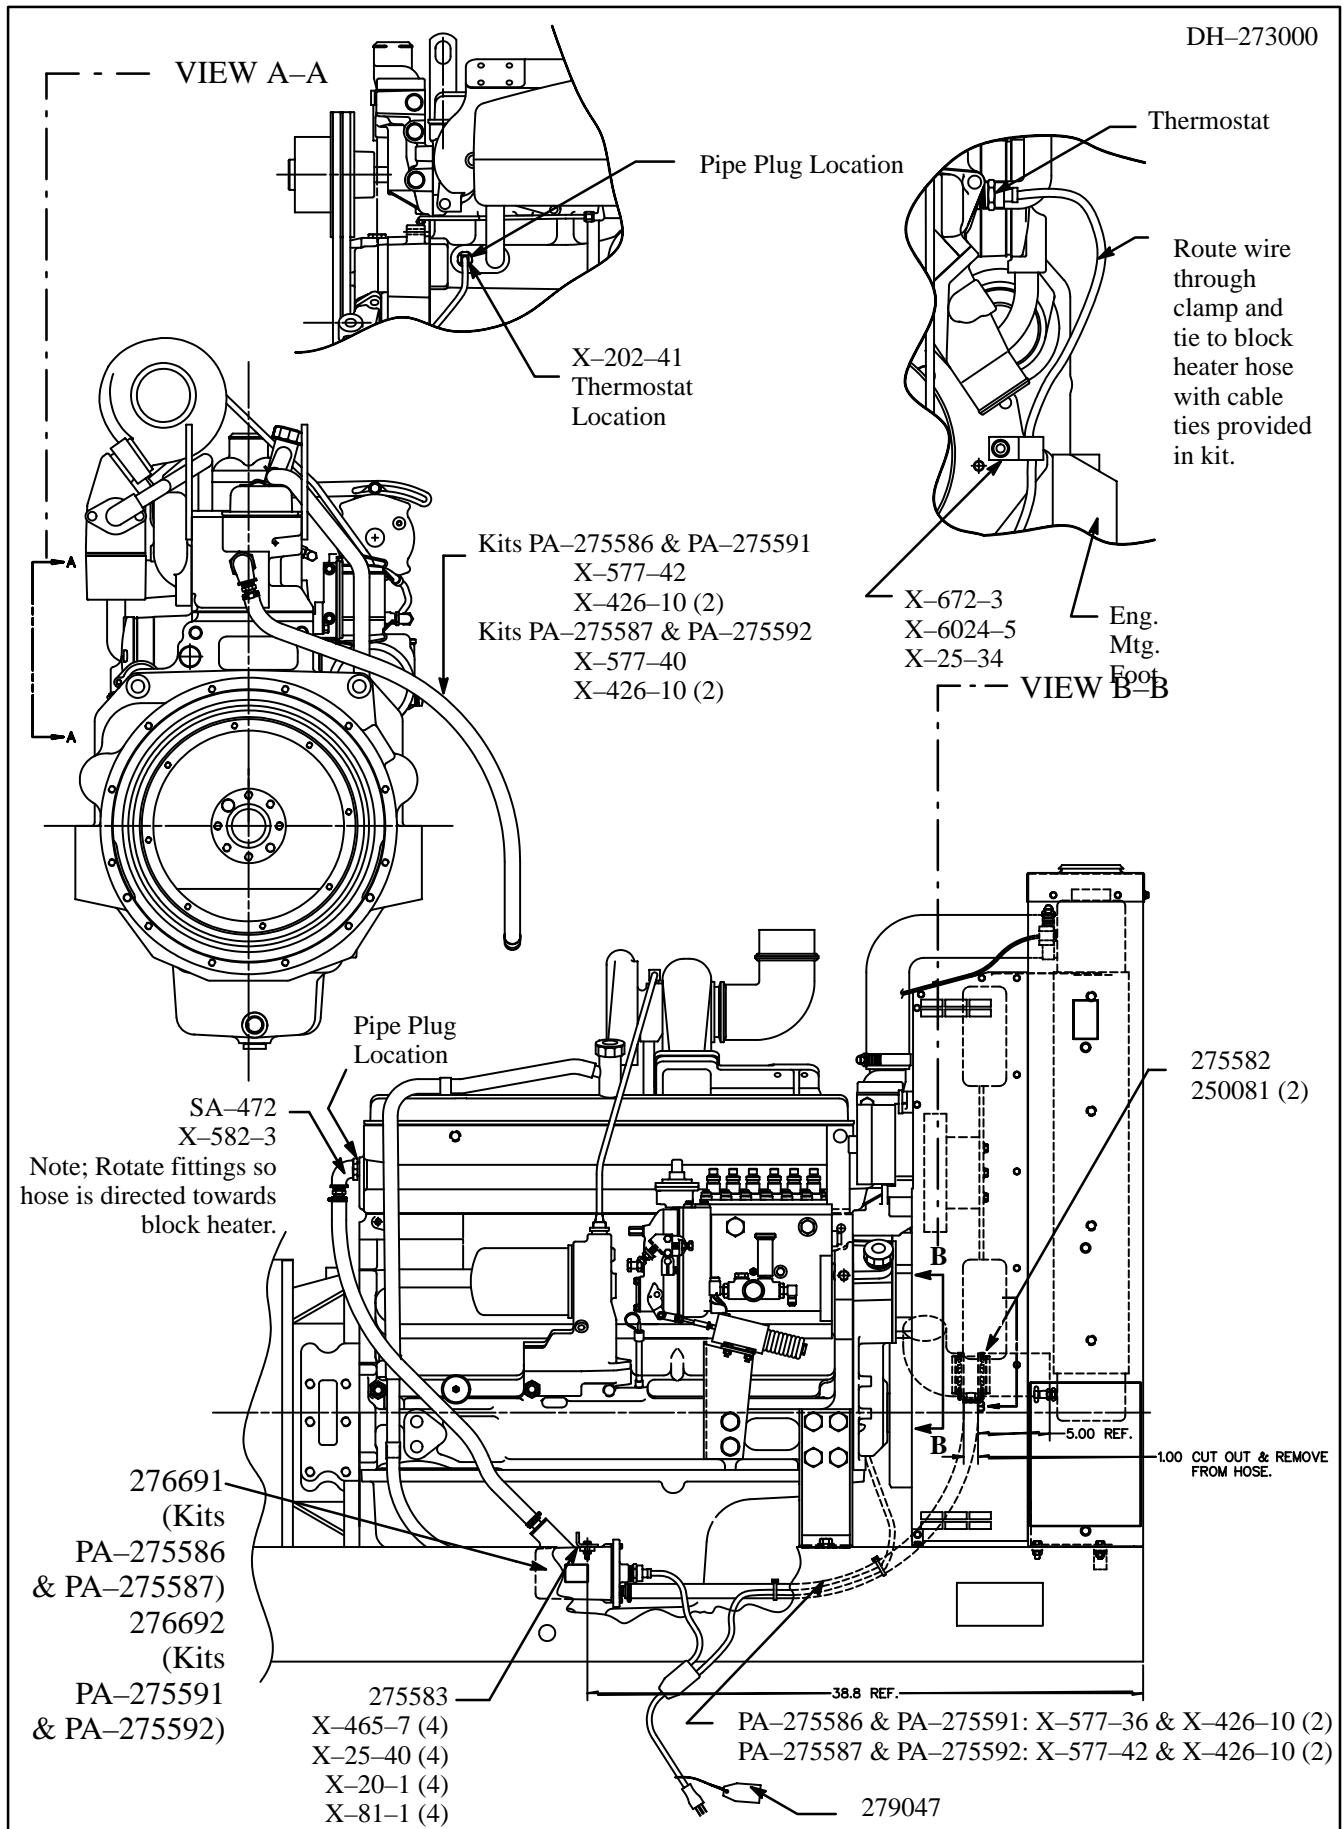

Figure 1. Block Heater Installation
The engine block heater kit heats engine coolant, making starting easier and warm-up quicker. The thermostat will automatically turn off when coolant temperature reaches 120°F (49°C). These instructions cover the installation of several block heater kits. In instances where two different part numbers are mentioned, refer to Figure 1 to determine which part number applies to your application.
3. Remove pipe plug from engine using a 1/2 inch square head driver. Clean hole and remove burrs. See Figure 1 for location.
4. Attach elbow (SA-472) and hose connector (X-582-3). See Figure 1.
9. Remove pipe plug. Position thermostat at location shown in Figure 1 (View A-A), by first installing reducer bushing (X-202-41). Route wire through clamp. Install insulator clamp (X-672-3) using washer (X-25-34) and screw (X-6024-5). Tie to block heater hose with cable ties provided in kit. See Figure 1, view B-B.